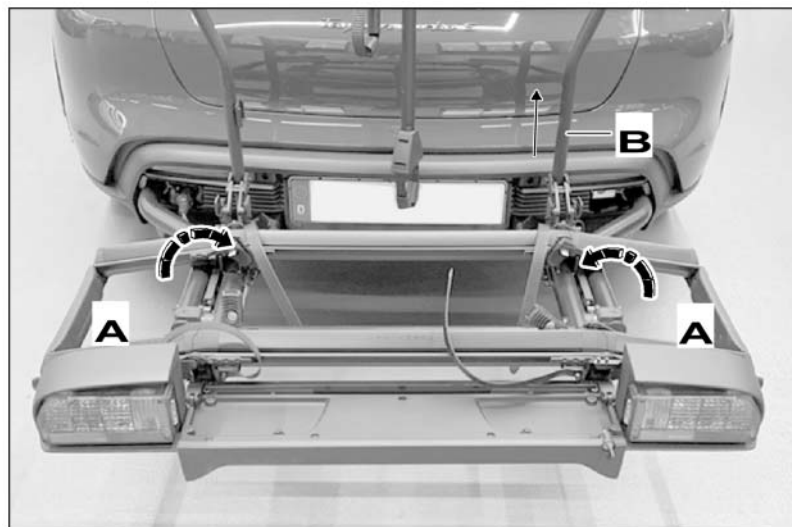

Figure 27
27. – Fold the flaps. Fold the flaps ⇒ *Figure 27 -LHD vehicle* - inwards on both sides. When doing this, it is a good idea to press the support bar ⇒ *Figure 27 -RHD vehicle* - in direction of travel to make it easier to release the mechanism.